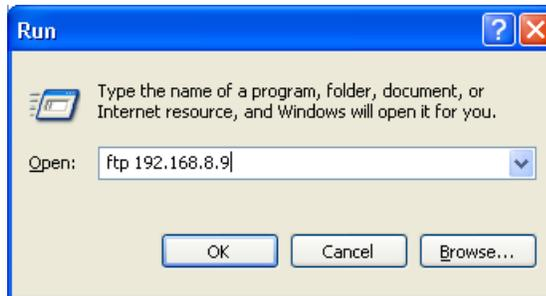

Figure 7-5: Run Window for FTP Access
2. FTP into the control panel using the following command. Replace 192.168.8.9 with the unique IP of the control panel as shown in Figure 7-5. When prompted for the Login and Password simply press enter for both.